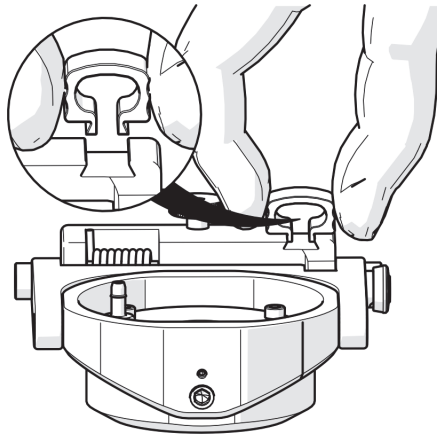

Figure 2-35 Cable clip
1. The supplied cable clip is offered as a means of cable management. Pinch the clip for removal and installation (see Figure 2-35 on page 73).